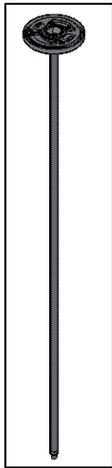

FIG. 3 - CANOPY AND STEM SUBASSEMBLY
1. CANOPY AND STEM SUBASSEMBLY. (Pre-assembled as shown in FIG. 3)